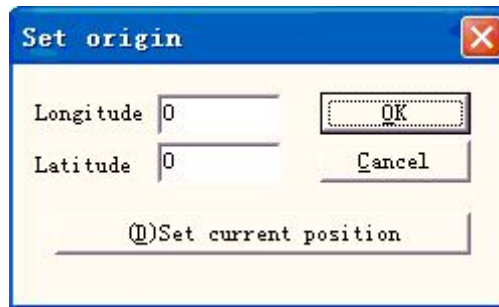

Figure 8-14 Origin point setting
**Origin point:** user click origin point presenting origin point set dialog box. As is shown in Figure 8-14: